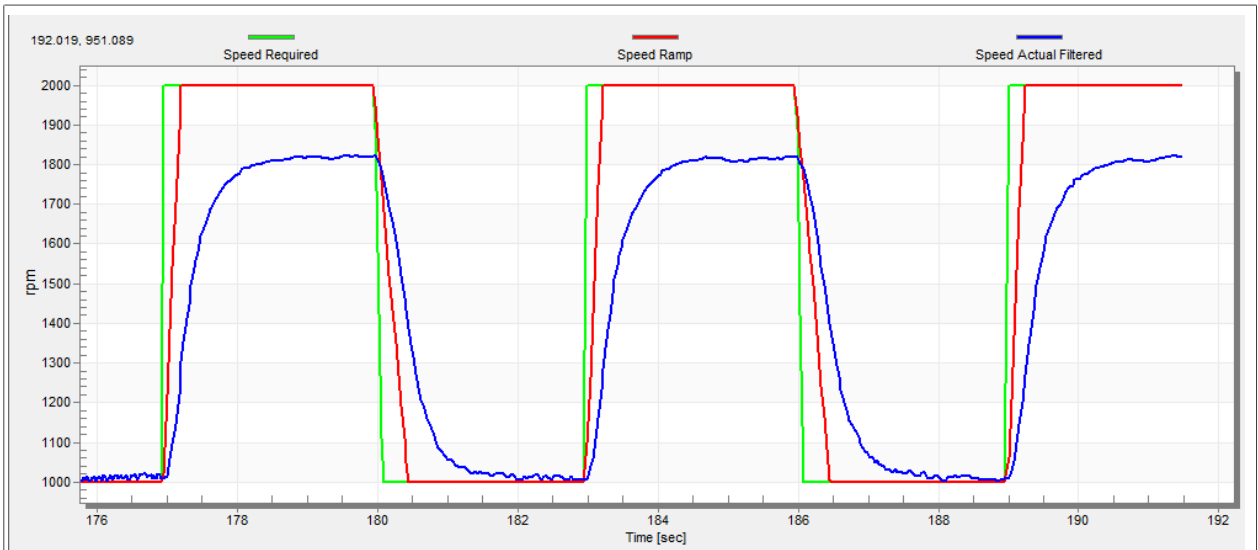

Figure 32. Speed controller response—SL_Ki value is low, Speed Ramp is not achieved
The motor speed control loop is a first-order function with a mechanical time constant that depends on the motor inertia and friction. If the mechanical constant is available, the PI controller constants can be tuned using the loop bandwidth and attenuation. Otherwise, the manual tuning of the P and I portions of the speed controllers is available to obtain the required speed response (see the example response in Figure 32). There are dozens of approaches to tune the PI controller constants. The following steps provide an approach to set and tune the speed PI controller for a PM synchronous motor:
- The “SL_Ki” value is low and the “Speed Actual Filtered” does not achieve the “Speed Ramp” (see Figure 32).